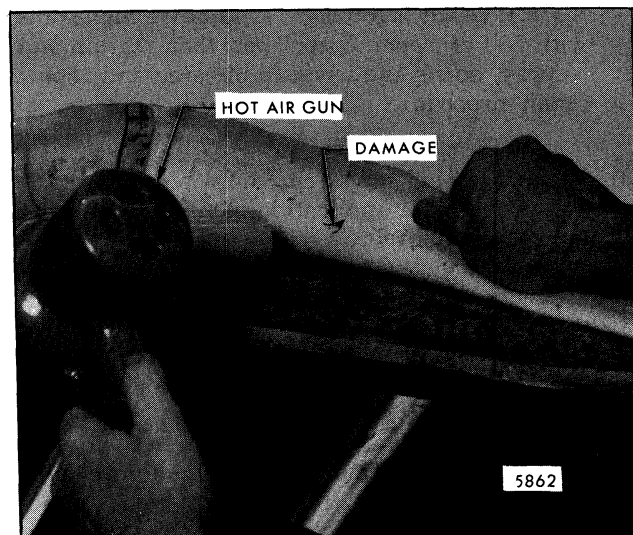

Fig. 8-70-Separating Roof Cover from Foam Pad - Heat Application
5. Apply heat sparingly between roof cover and pad to permit easier separation of cement bond (Fig. 8-70).